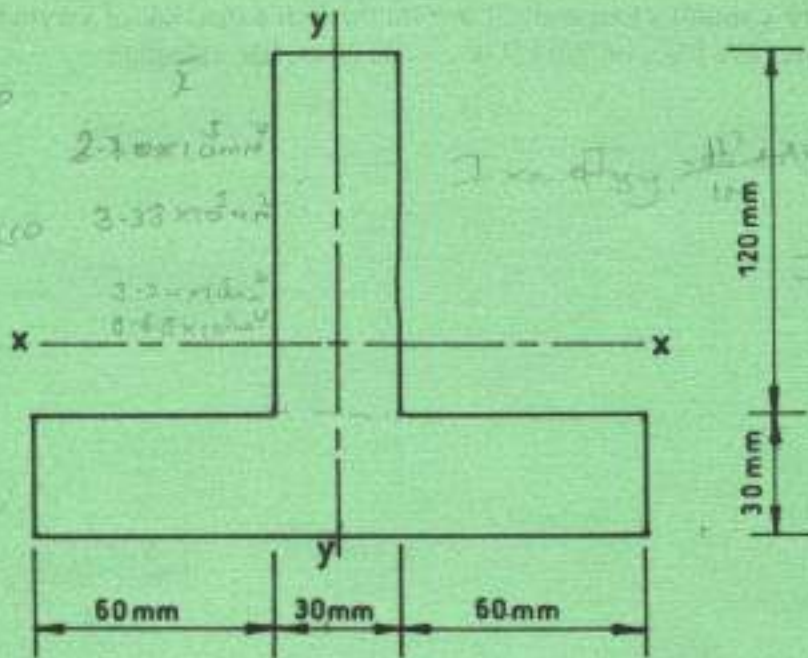

Fig. 2
2. (a) **Figure 2** shows a cross section of a beam. Calculate second moment of area about the centroidal axes.